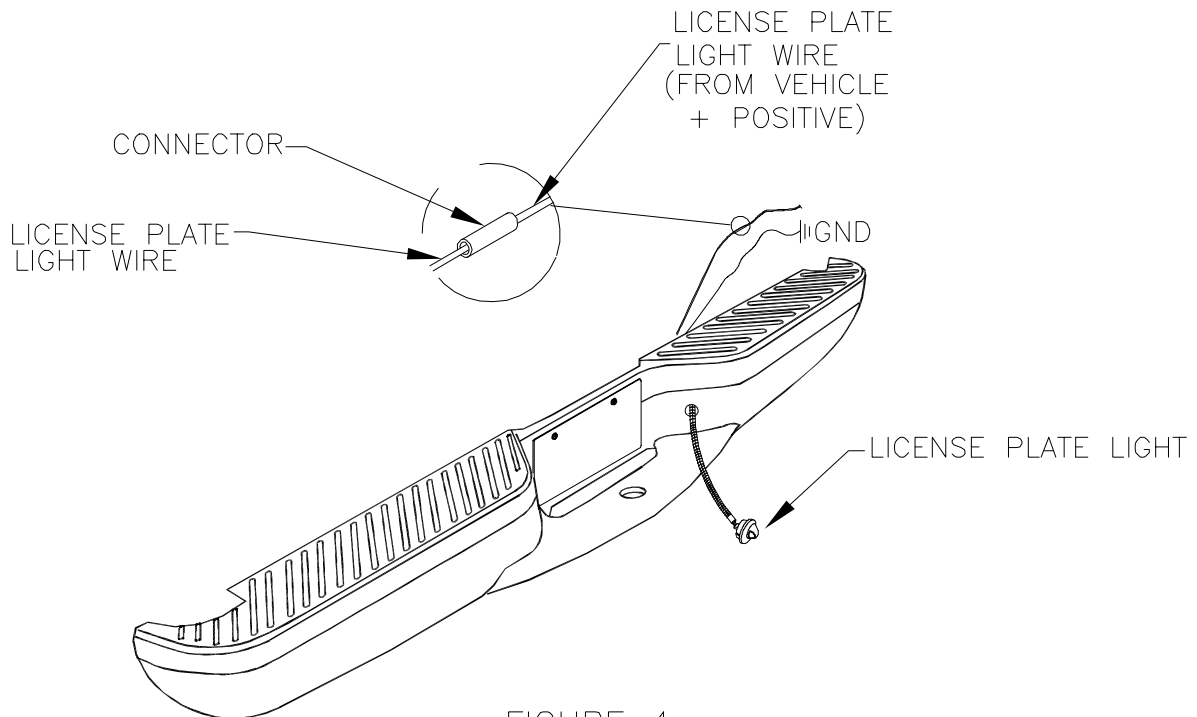

FIGURE 4
STEP 7: Install the license plate lights into the bumper. Splice the light wires into the truck's wiring using the supplied connectors. Check that the license plate lights are functioning properly before driving the vehicle at night. Refer to Figure 4.